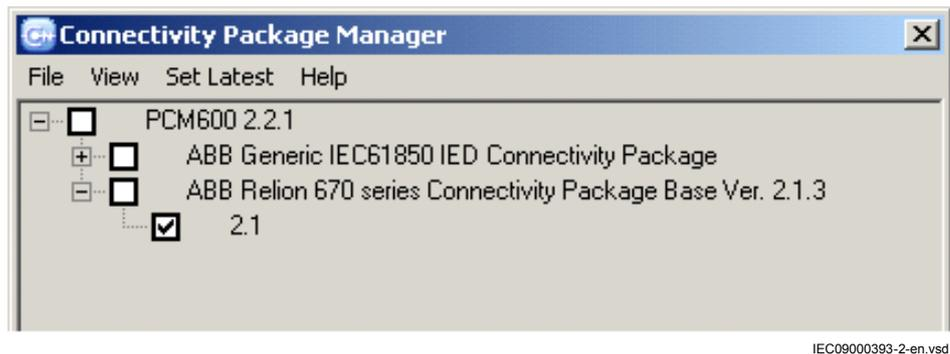

Figure 5: Connectivity package manager window
6. Always use the latest version of a connectivity package, see Figure 5. Click *Set Latest* in the menu bar.